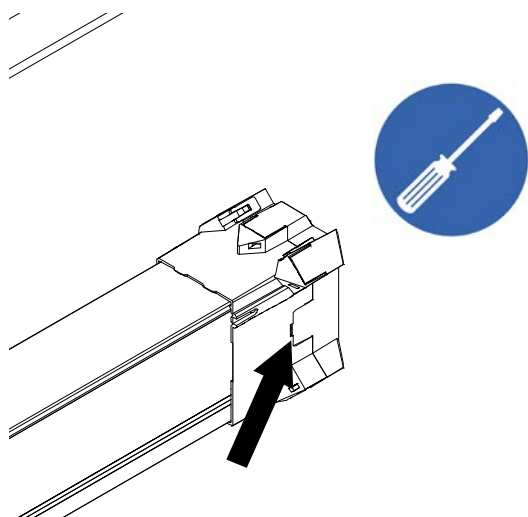

Fig. 118: Disengage wide clips
- Disengage the wide clips on the side (2x) with a slotted screwdriver (see Fig. 118).